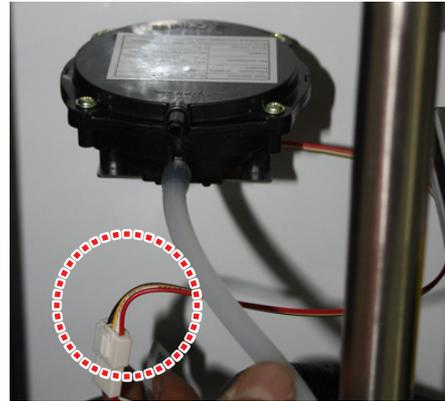

Figure11
4. Refer to figure11 and remove the air pressure sensor wiring connector.